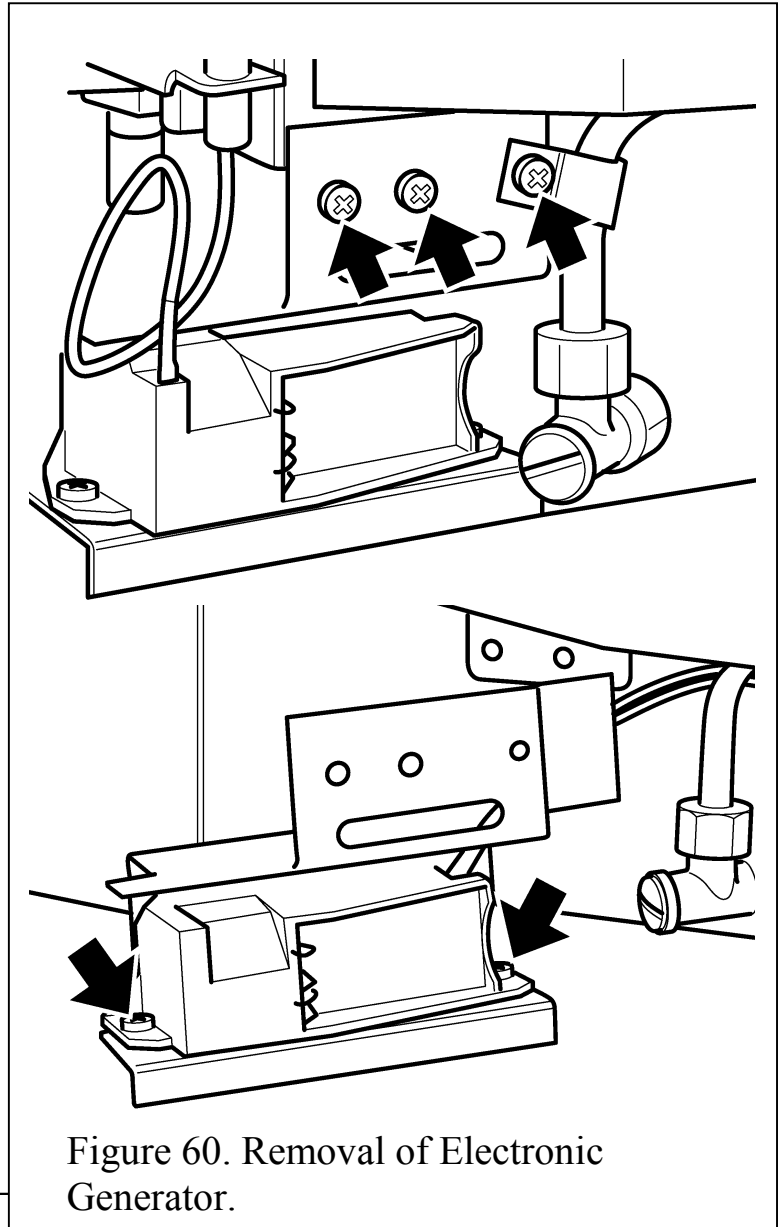

Figure 60. Removal of Electronic Generator.
7. Remove the two fixing screws that attach the generator unit to the support bracket. The igniter generator can now be removed. (see figure 60)